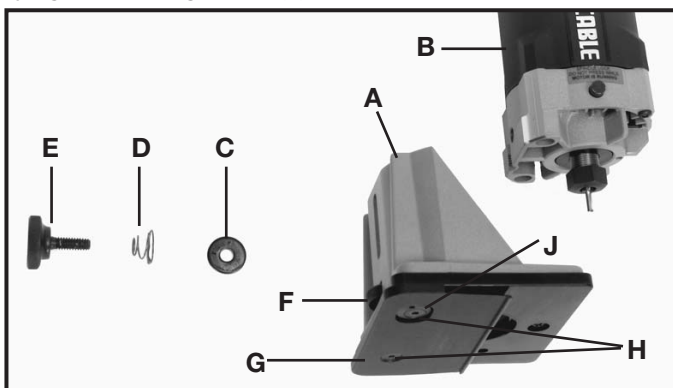

Fig. 15
4. Position base (A) Fig. 15, to motor (B) and secure using locking screw (E), spring (D) and washer (C).
5. Align the two holes in the underscribe attachment (G) Fig. 15, with the two holes in the base (A).
6. Attach the underscribe attachment (G) Fig. 15, to the base (A) with two screws (H) and eccentric washer (J).
1. Loosen base locking screw (E) Fig. 15, approximately one-quarter of a turn.
2. Turn depth adjusting wheel (F) Fig. 15, counterclockwise (looking at top of wheel) to lower bit until it just touches the guide plate.
3. Firmly tighten locking screw (E).